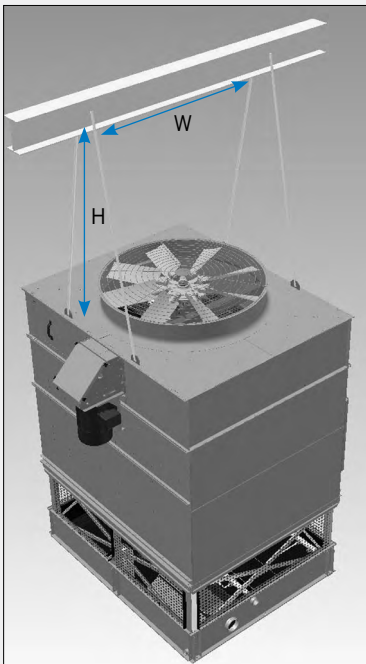
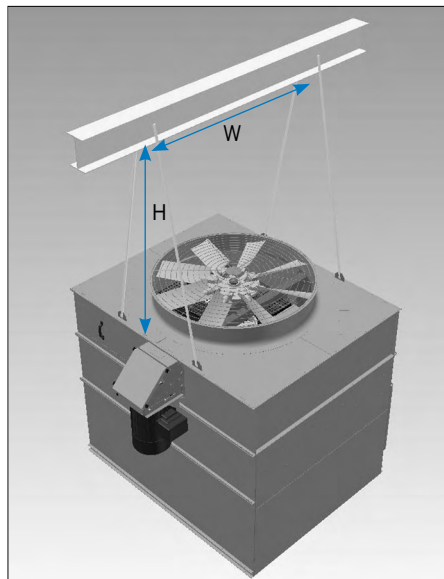
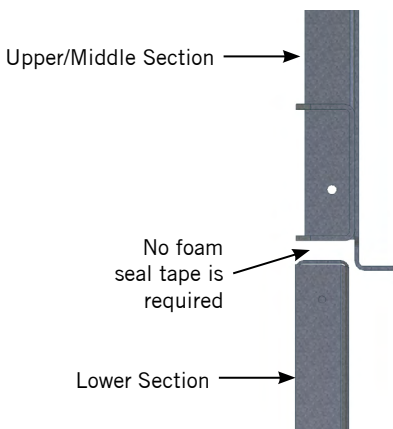

Figure 1. Single-Piece Lift
Figure 2. Upper Section Two-Piece Lift
Figure 4. InterLok™ System
All single cell PT2 Cooling Towers are designed to be lifted in one assembled piece as shown in **Figure 1**. A two-piece lift is shown in **Figures 2** and **3**. All sections, with the exception of the lower section, require the use of a spreader bar. The distance between the spreader bar lifting points must be equivalent to the width between the unit lifting ears. Any motors or accessories shipped in the cold water basin must be removed prior to installation.
2. **Figures 2** and **3** show the proper rigging of the sections for units that ship in two sections. Position the lower section on the steel support and bolt in place. No foam seal tape is required on the InterLok™ System casing joint (see **Figure 4**).